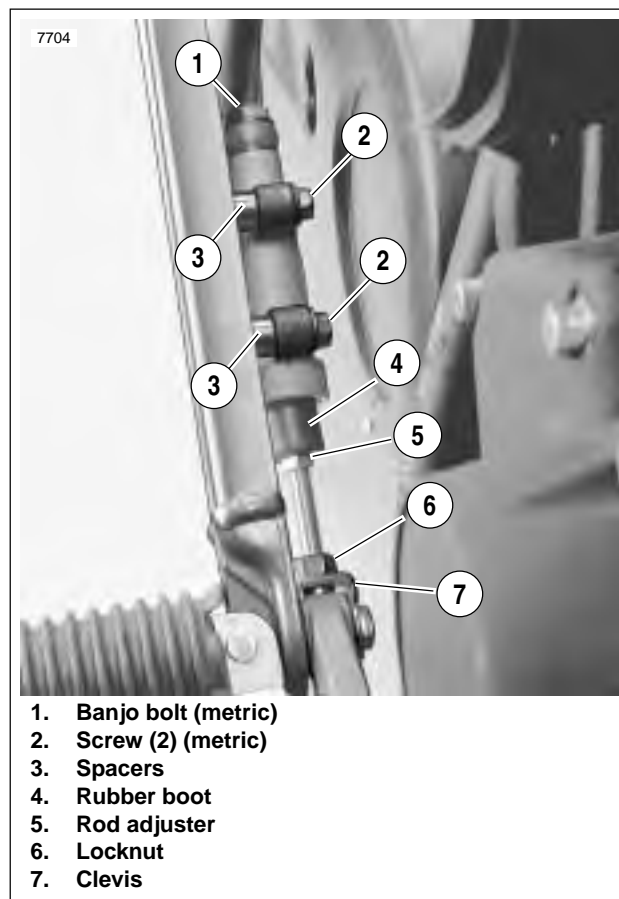

Figure 2-52. Master Cylinder Mounting
2. See Figure 2-52. Apply LOCTITE 243 (blue) to both screws. Attach master cylinder to frame with spacers between master cylinder and footrest support. Tighten to 48-72 **in-lbs** (5-8 Nm).
4. Install push rod (9) by screwing push rod into clevis (13).
5. See Figure 2-52. Set brake pedal height.
- a. Loosen locknut (6).
- b. Turn rod adjuster (5) to obtain correct position.
- c. Tighten locknut (6).